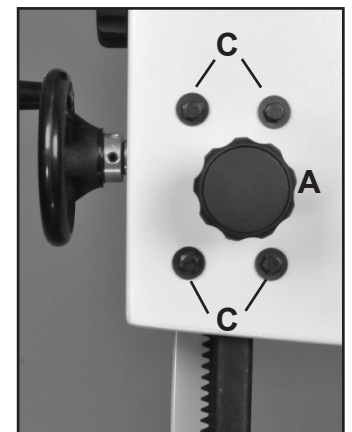

FIGURE 30
4. Loosen the four Hex Bolts (#2C) located at the rear of the top frame. Fig. 30, C). This will allow the